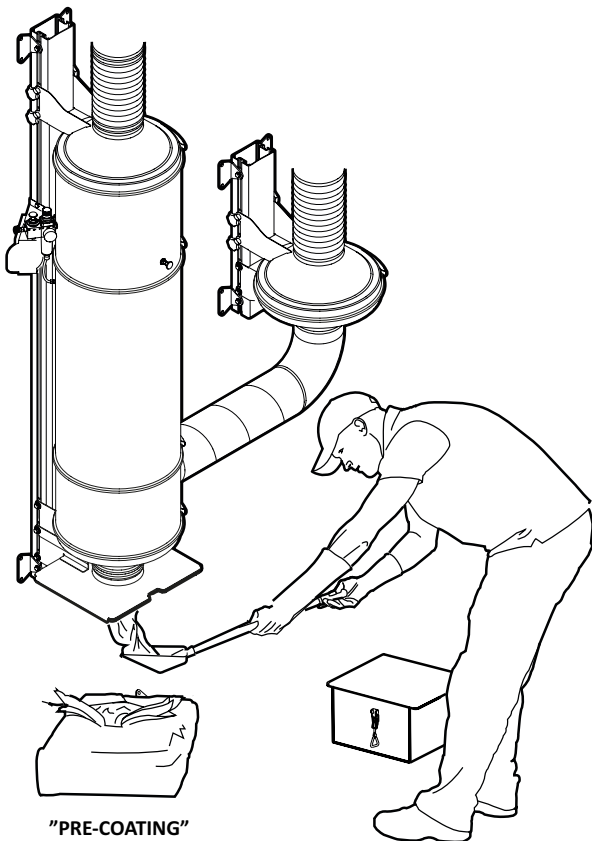

Fig. 8
2. Start the fan at full speed and extract all the dust. Dispense the powder in an even flow so that the suction rate is approximately 20 sec/1 kg, see **Fig. 8**.